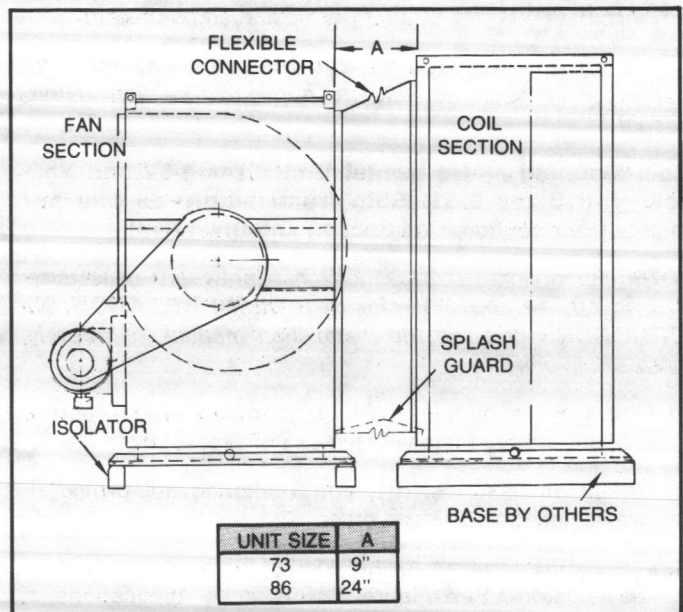
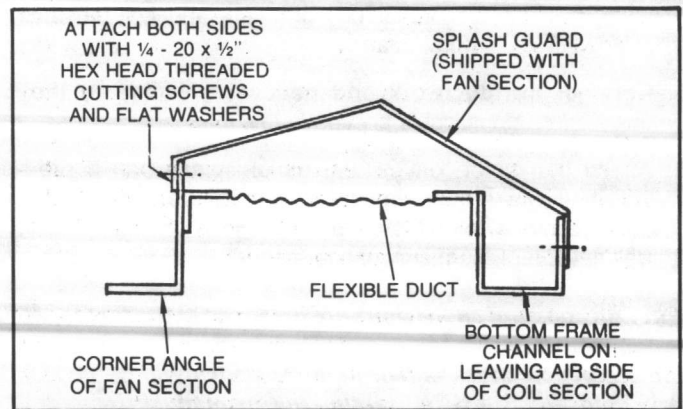

FIGURE 7 - Mounting Clearance Dimensions for Draw-Thru Units Sizes 73-86
FIGURE 8 - Splash Guard Installation
4. Horizontal Units Size 73 and 86 — To assemble unit, mount the fan section on the isolators and fasten. Attach flexible connector to the fan section. Then fasten the splash guard to the fan section. See Figure 8. Mount the coil section on the base with the required distance between fan and coil sections. See Figure 7. Each fan section and coil section have separate factory assembled drain pans. Each drain pan must be trapped separately.
NOTE: Coil section base is provided by the installer. Height of coil section base should be equal to working height of fan section isolators. Be sure the base is high enough to allow room for a piping trap. See Figure 7. Refer to drain trap sketches in piping section.
4. Horizontal Units Size 73 and 86 — To assemble unit, mount the fan section on the isolators and fasten. Attach flexible connector to the fan section. Mount the coil section on the base with the required distance between fan and coil sections. See Figure 7. Drain pan is factory assembled to each section.
7. Horizontal Unit Sizes 73-86 — Set the coil and fan section on each of the prepared support frame. See Figure 13. Attach the splash guard and fasten the flexible connector to the fan section. See Figure 8. Panel removal may be necessary to attach splash guard.
8. Hoist the assembled unit or separate pieces with support frames and attach the support frames (sizes 3-86) to the hanger or suspension rods. For size 73-86 units, the required distance between fan and coil sections must be as shown in Figure 7. Attach flexible connection to the coil section.